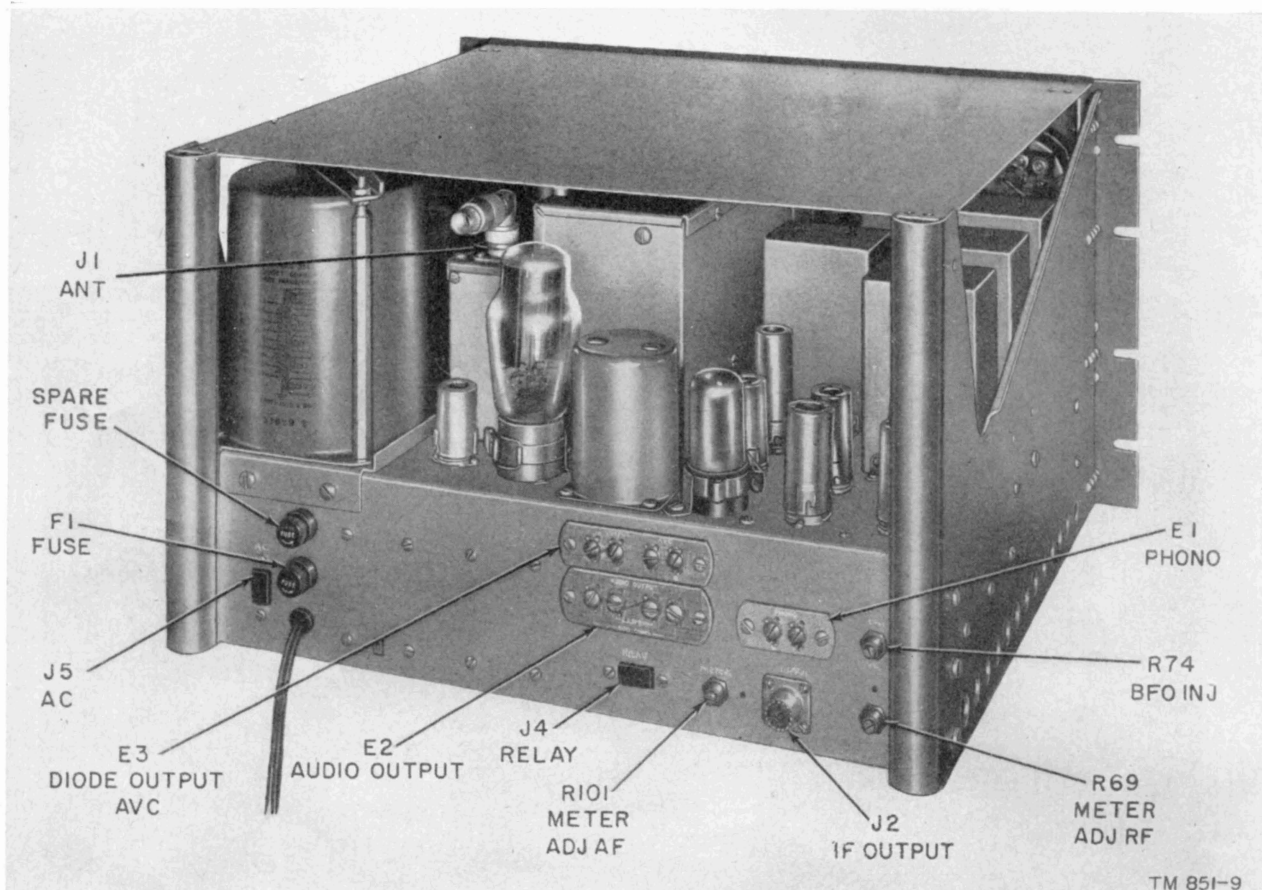

Figure 9. Radio Receiver R-320A/FRC, rear view.
*b.* Figure 6, showing the front view of Radio Receiver R-274A/FRR, is equally applicable to Radio Receiver R-274C/FRR. Figures 7 and 10 show the visible differences between the two receivers. Note that Radio Receiver R-274C/FRR utilizes the top-hat type of tube clamps; a small shield covers switch S3; it has a DIODE OUTPUT-AVC terminal board E3 as does Radio Receiver R-320A/FRC (fig. 9); also both fuses, F1 and F2, are contained on the rear apron, and a spare fuse for each is located under the cover designated SPARE FUSES. There are, however, no RELAY and PHONO terminal provisions in Receiver R-274C/FRR.